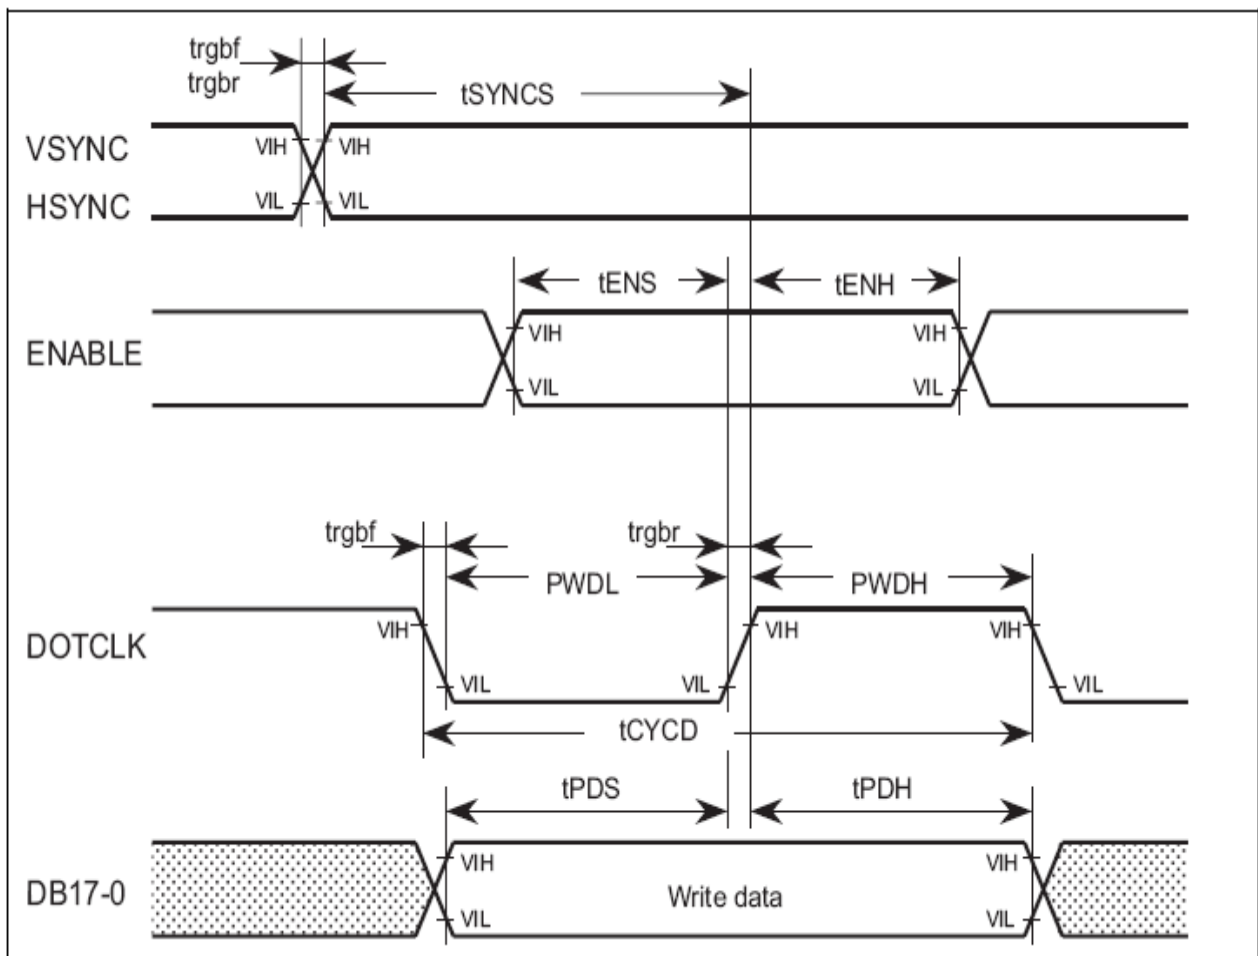

Figure 1
- (5) Nearby dot definition :
(6) (Fig.1) ; t= glass thickness